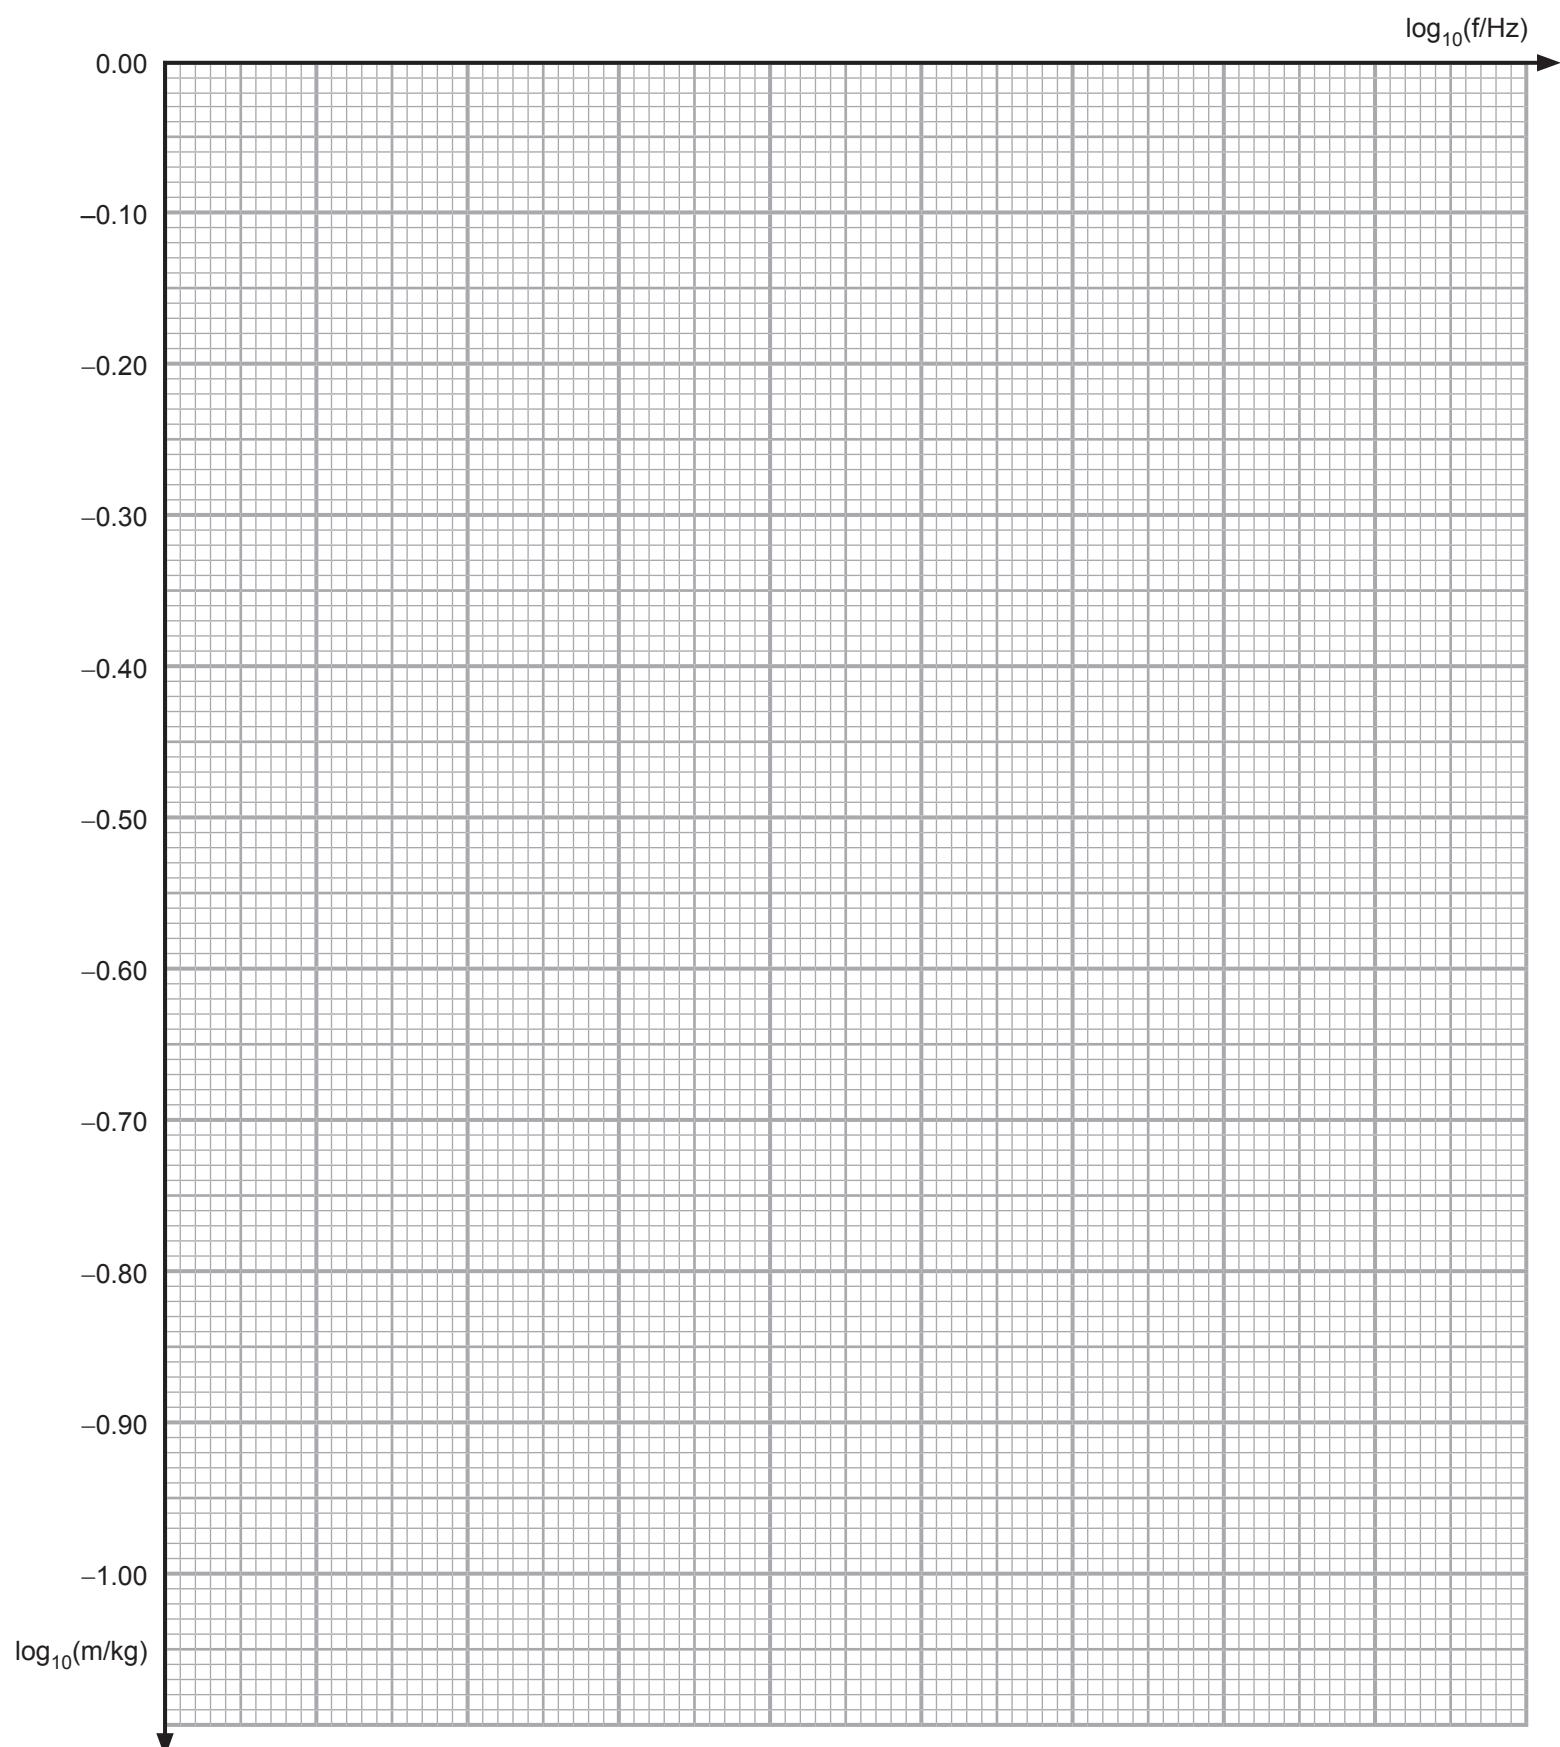

Fig. 1.2
On the graph grid of **Fig. 1.2**, plot the graph  $\lg_{10}(m/kg)$  against  $\lg_{10}(f/Hz)$ . The logarithm to base 10 of the suspended mass is already scaled, scale the x-axis, plot the five points and draw a linear best fit line.
- (i) Determine the gradient of the best-fit line drawn in **Fig. 1.2**.